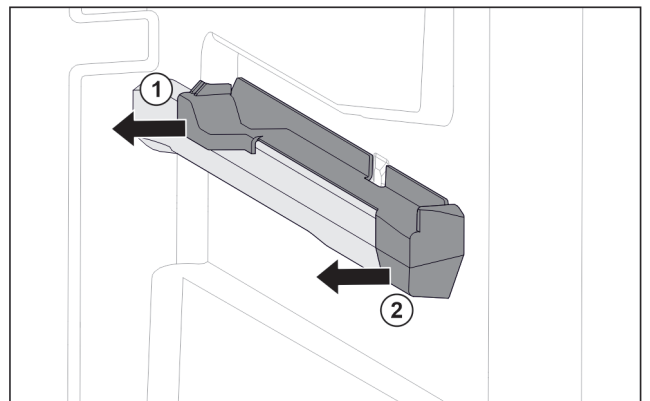

Fig. 46 Attachment on the right moulded rib
- ▶ Pull off attachment at the back sideways. Fig. 46 (1)
- ▶ Pull off attachment at the front sideways. Fig. 46 (2)